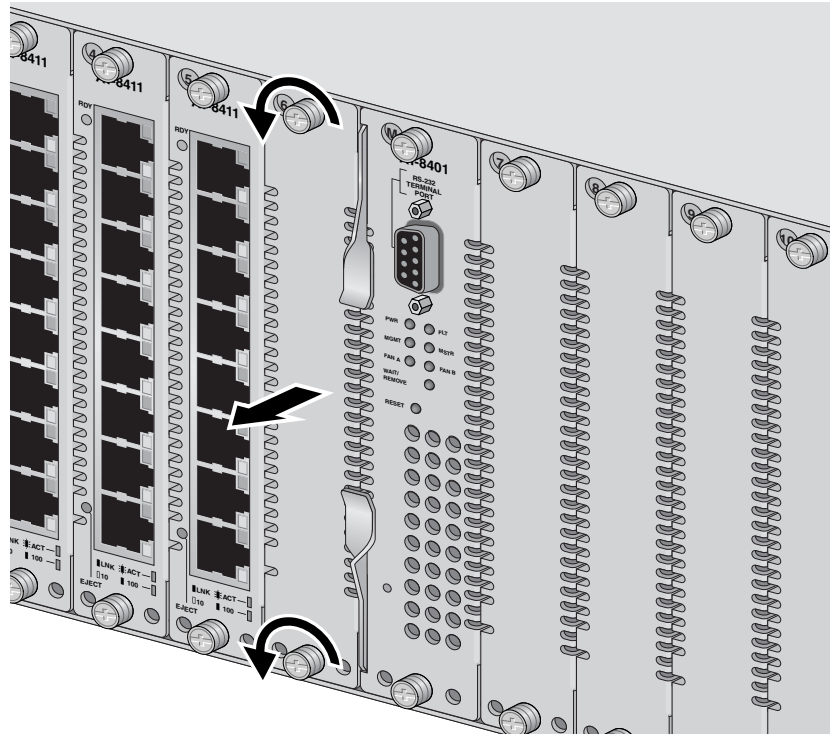

Figure 15 Removing a Blank Faceplate from the AT-8400 Chassis
- Using a Phillips screwdriver, loosen the two installation screws on the faceplate. See Figure 15.